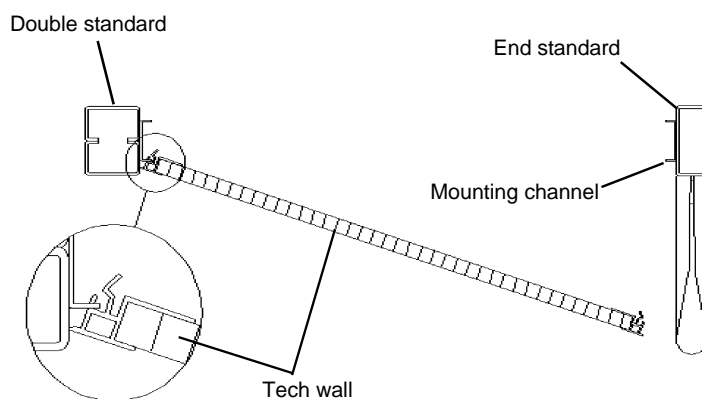

Figure 3
2. Install the panels onto the TechOrganizer frame by first inserting one side of the Tech Wall onto one Mounting Channel and then snapping the other side onto the opposite Mounting Channel. See **Figure 3**.